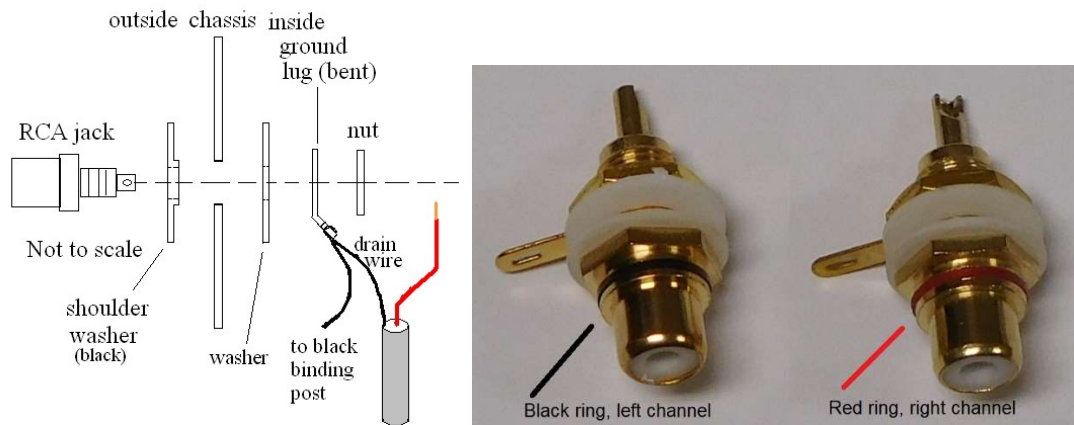

Figure 40-Installing RCA jacks
The left channel RCA jack has a black ring. Install it from the outside of the chassis into the left channel (marked) RCA jack hole. The mounting hardware arrangement is shown in Figure 40. Use the left channel shielded cable and ground harness that you previously built.
- Insert the RCA jack and the *two insulating washers* and ground lug as shown in Figure 40. The ground lug already has two black wires attached. Tighten the mounting nut. Note that there are shoulders on the insulating washer that keep the RCA connector's body from touching the chassis.
in Figure 40. Use the right channel shielded cable and ground harness that you previously built.
1. Insert the RCA jack and the *two insulating washers* and ground lug as shown in Figure 40. The ground lug already has two black wires attached. Tighten the mounting nut. Note that there are shoulders on the insulating washer that keep the RCA connector's body from touching the chassis.